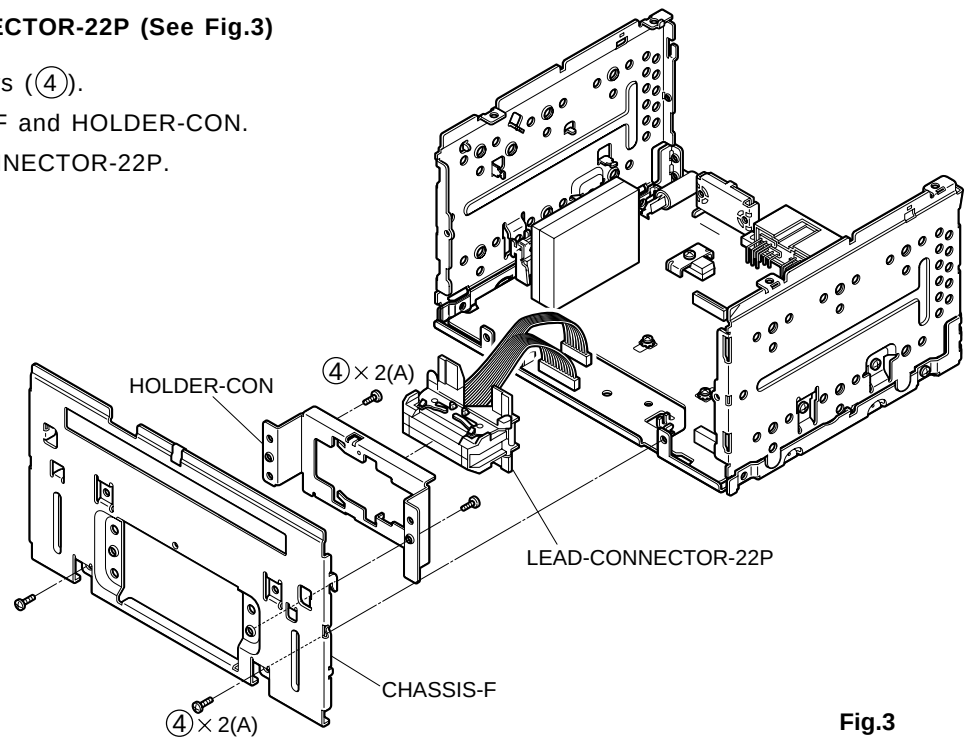

Fig.3
3. Removal of LEAD-CONNECTOR-22P (See Fig.3)